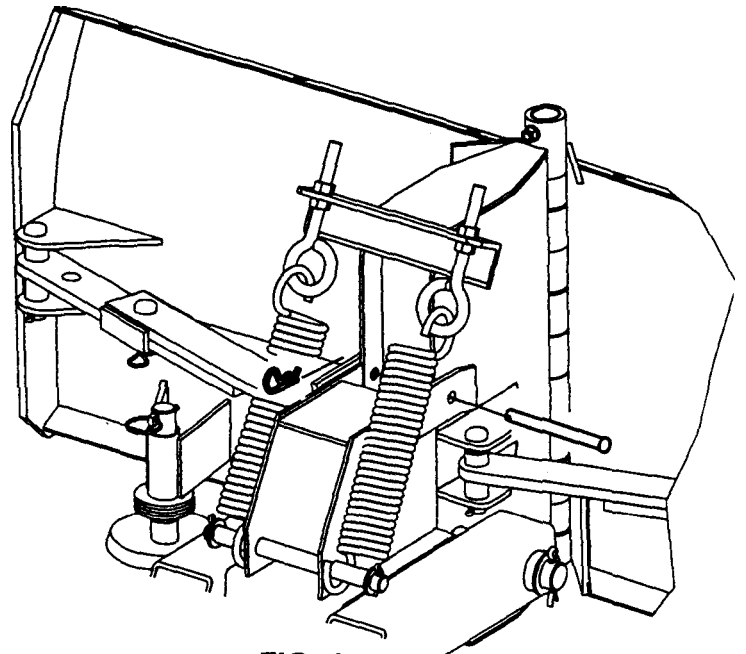

FIG. 4
3. For moving loose dirt and material other than snow the blade trip can be locked. Use the 1/2 x 5 clevis pin and #3 clip pin. (FIG. 4)